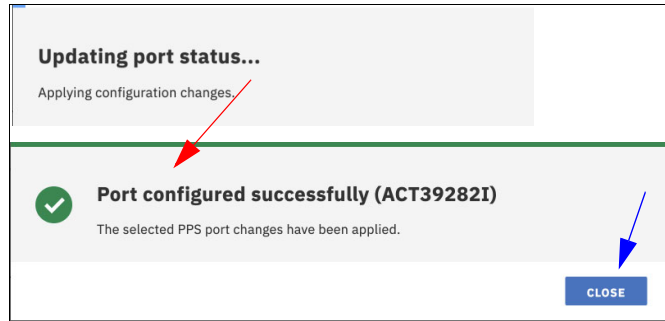

Figure 4-68 PPS connectivity test finalized
11. Click **APPLY** and the messages in Figure 4-68 are displayed, which confirm that the correct PPS port configuration.